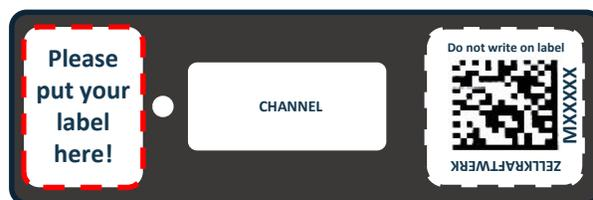

Fig. 3 | Space for additional label on ZellSafe™ chip
1. Apply the patient identification label on the ZellSafe™ chip at the position indicated in Fig. 3 (optional; not included in the kit). Please do not write on the QR-code label.